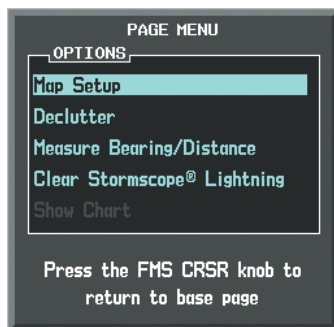

Figure 6-64 Page Menu
- 2) With 'Map Setup' selected (Figure 6-64), press the **ENT** Key.
- 2) With 'Map Setup' selected, press the **ENT** Key (Figure 6-64).